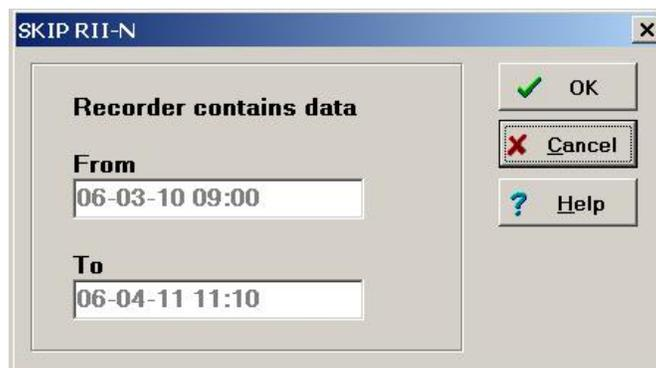

Figure 20.1: Datalogger memory contents dialog
- the **Recorder contains data** dialog opens – see fig. 20.1.